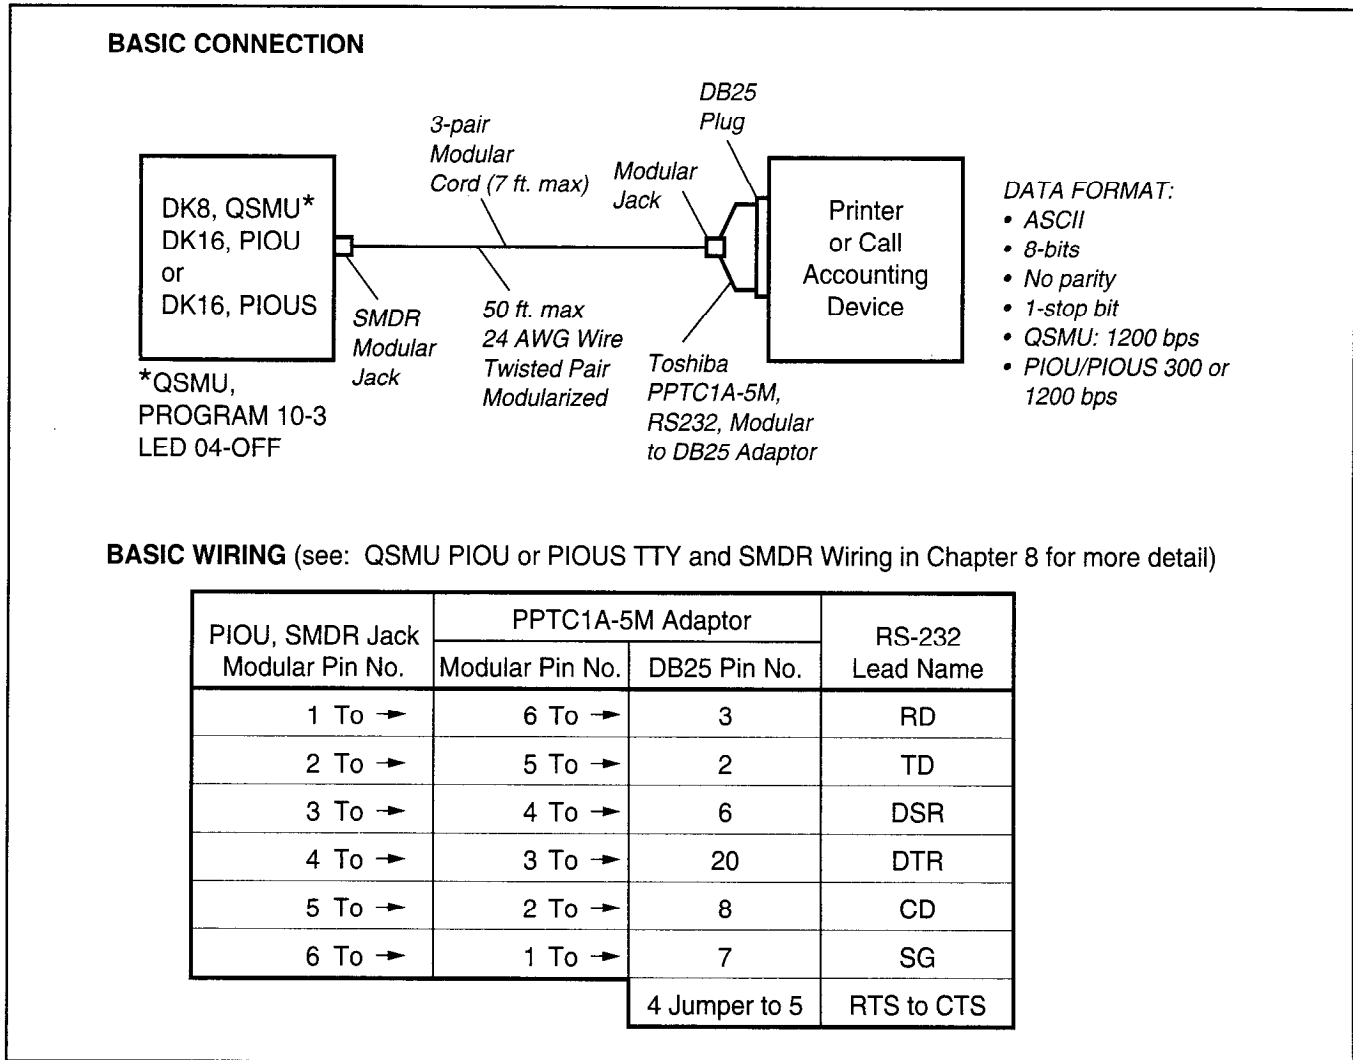

FIGURE 7-20
6.11 The DK8 system must be equipped with a QSMU option PCB. QSMU **Program 10-3, LED 04** must be **OFF**. Install the QSMU PCB in accordance with Section **100-816-204** and wire the SMDR device to the QSMU (PPTC/mocular cord) in accordance with Section **100-816-208**. The DK16 system must be equipped with a PIOU or PIOUS PCB in the Expansion Unit to support the SMDR printer/call accounting device option. Connection of the printer or call accounting device to the PIOU or PIOUS PCB is accomplished with a 3-pair modular cord (7 feet maximum) and a PPTC connector adaptor (refer to Figure 7-20 for details). Call record data is ASCII-formatted, 8 bits, no parity, 1-stop bit.
6.21 Install the SMDR printer/call accounting device option in accordance with the following steps (refer to Figures 7-20, 8-26, and 8-24):